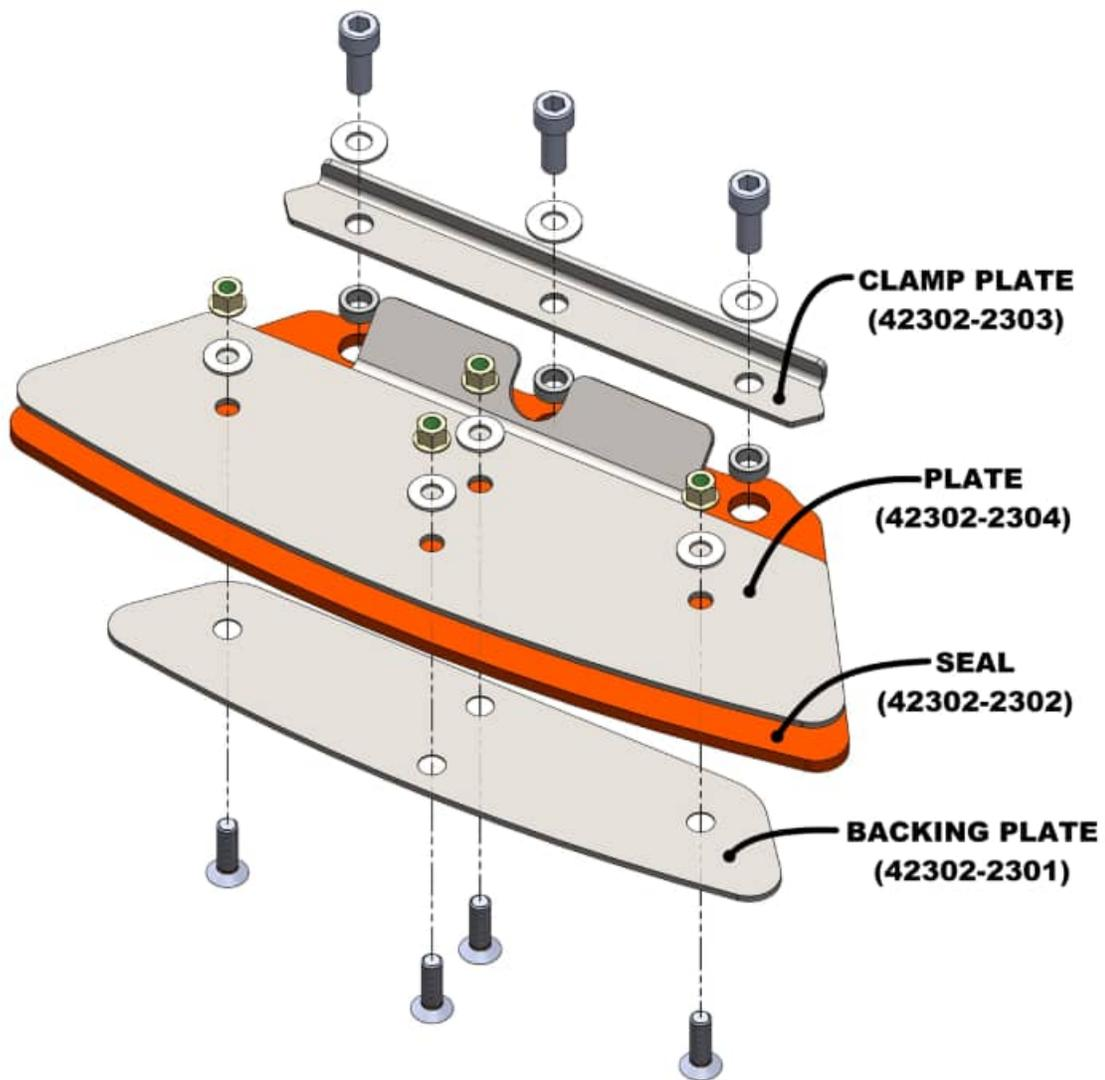

Figure 29: Check Valve Assembly
3. Check Valve(s) Disassembly (see Figure 29)